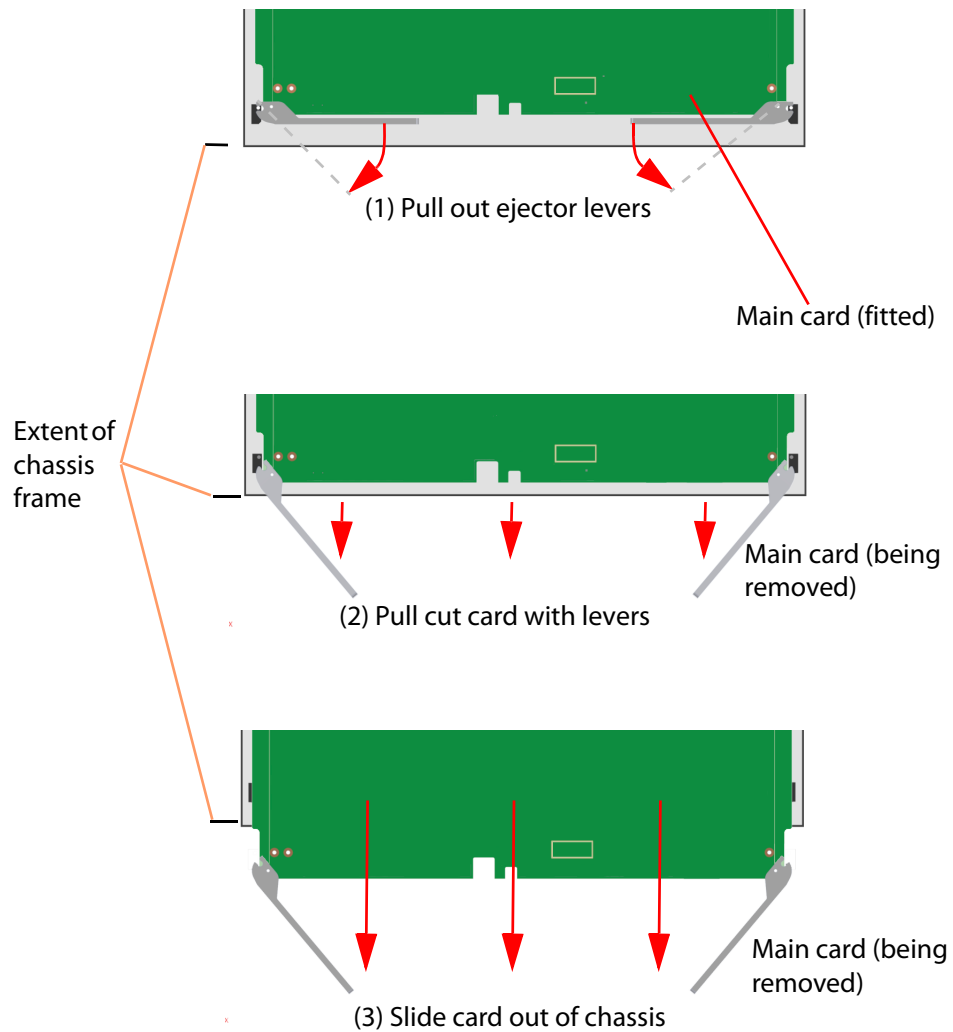

Fig. 11-9: Removing MV-825-RTR Multiviewer Main Card
- 5 Remove the front card by pulling on the two card eject levers, which hinge on the left and right. See Figure 11-9. The card disengages with the chassis and slides out.